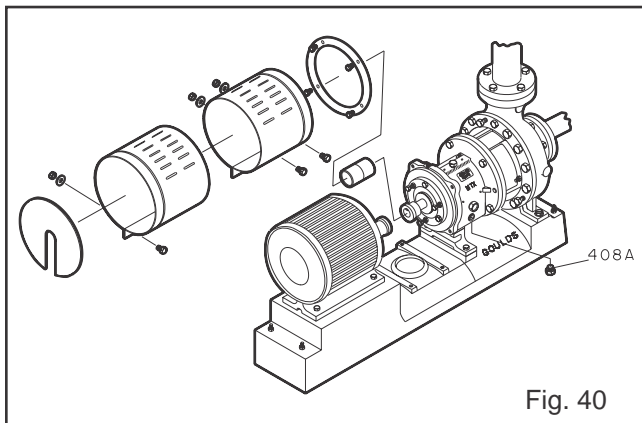

Fig. 40
7. If oil lubricated, drain oil from bearing frame by removing bearing frame drain plug (408A). Replace plug after oil is drained. Remove oil reservoir, if equipped (Fig. 40).